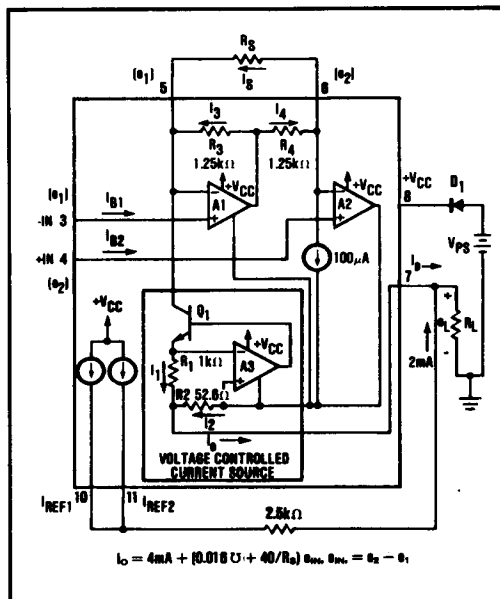

FIGURE 1. Simplified Schematic of the XTR100.
A simplified schematic of the XTR100 is shown in Figure 1. Basically the amplifiers, A_1 and A_2 , act as an instrumentation amplifier controlling a current source, A_3 and Q_1 . Operation is determined by an internal feedback loop, e_1 applied to pin 3 will also appear at pin 5 and similarly e_2 will appear at pin 6. Therefore the current in R_S , the span setting resistor, will be $I_S = (e_2 - e_1)/R_S = e_{IN}/R_S$. This current combines with the current, I_3 , to form I_1 . The circuit is configured such that I_2 is 19 times I_1 . From this point the derivation of the transfer function is straightforward but lengthy. The result is shown in Figure 1.
7. It is recommended that a reverse polarity protection diode (D_1 in Figure 1) be used. This will prevent damage to the XTR100 caused by momentary (e.g., transient) or long term application of the wrong polarity of voltage between pins 7 and 8.